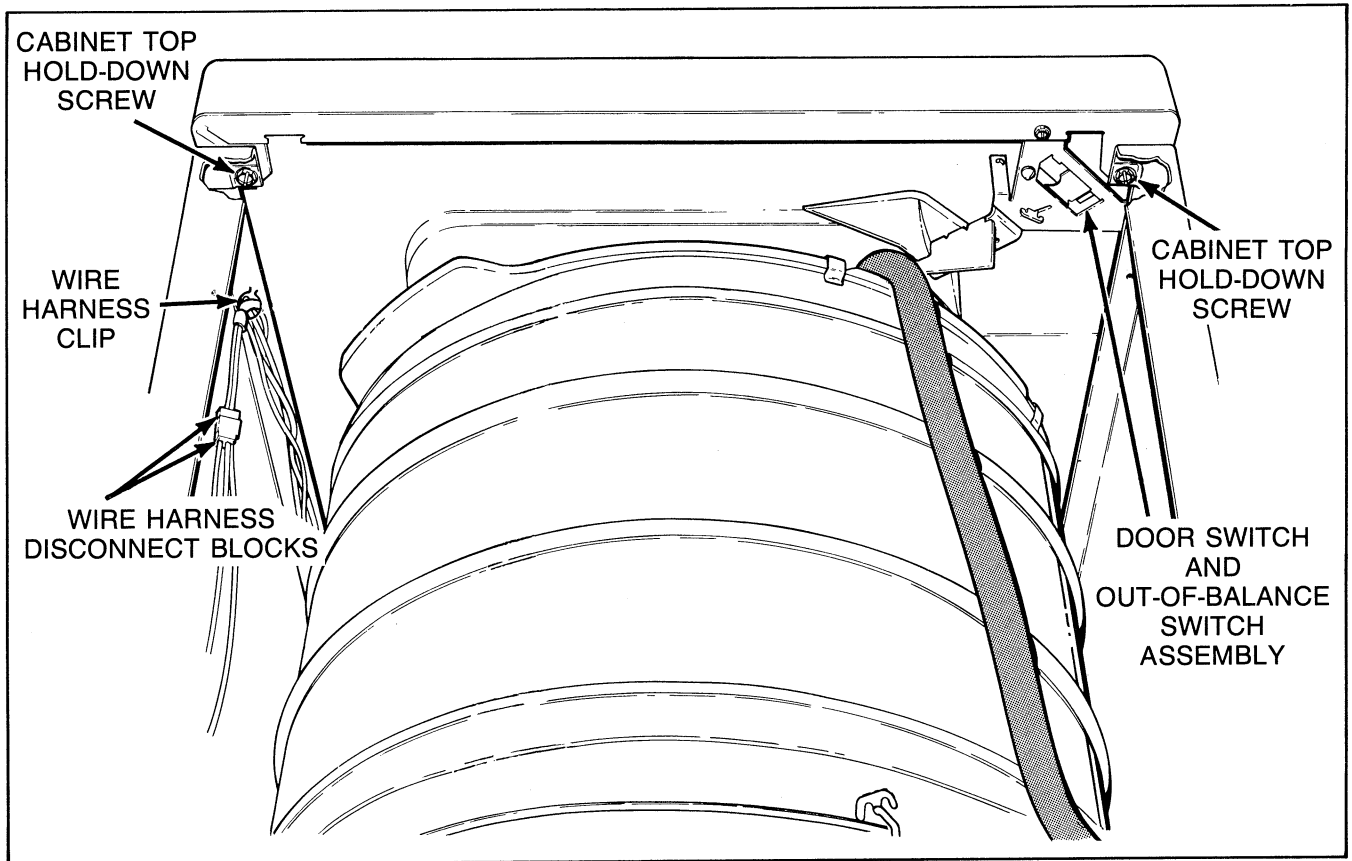

Figure 22
- Remove two cabinet top hold-down screws, *Figure 22*.
- c. Disconnect wire harness at disconnect blocks, *Figure 22*.